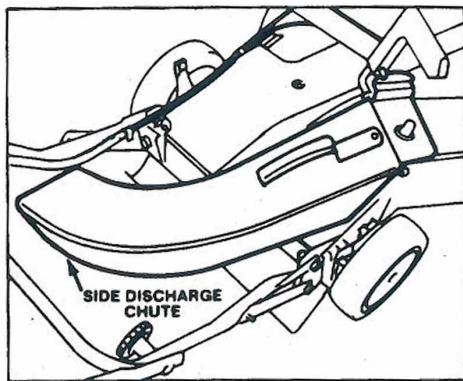

Figure 6
**SIDE DISCHARGE** — Disperse clippings with optional, rear-mounted side discharge chute which installs in seconds. Between the handle design lets you trim on both sides (Fig. 6).